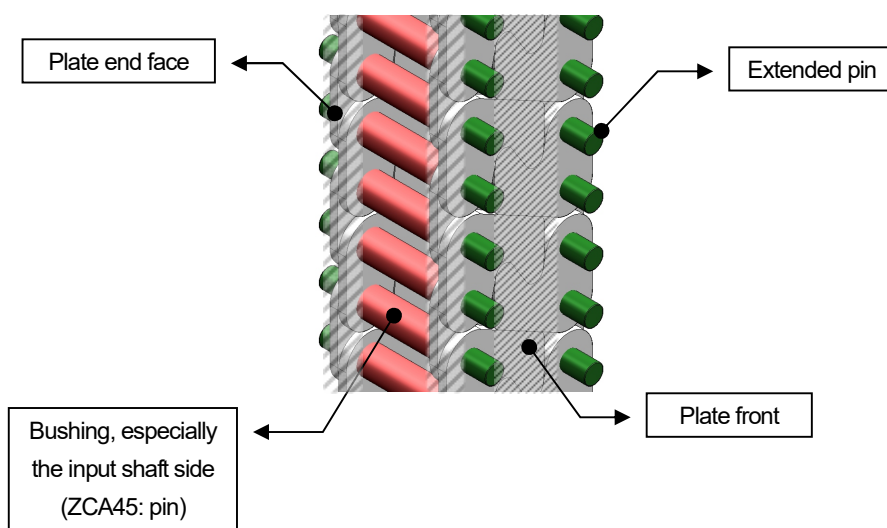

Fig. 7 Where to grease ZIP CHAIN
2. To lubricate ZIP CHAIN, wipe off any old grease using a brush and apply grease directly to the chain using a different brush. Refer to Fig. 7 for application locations and Table 11 for the amount of grease.
Refer to Table 12 and Fig. 7